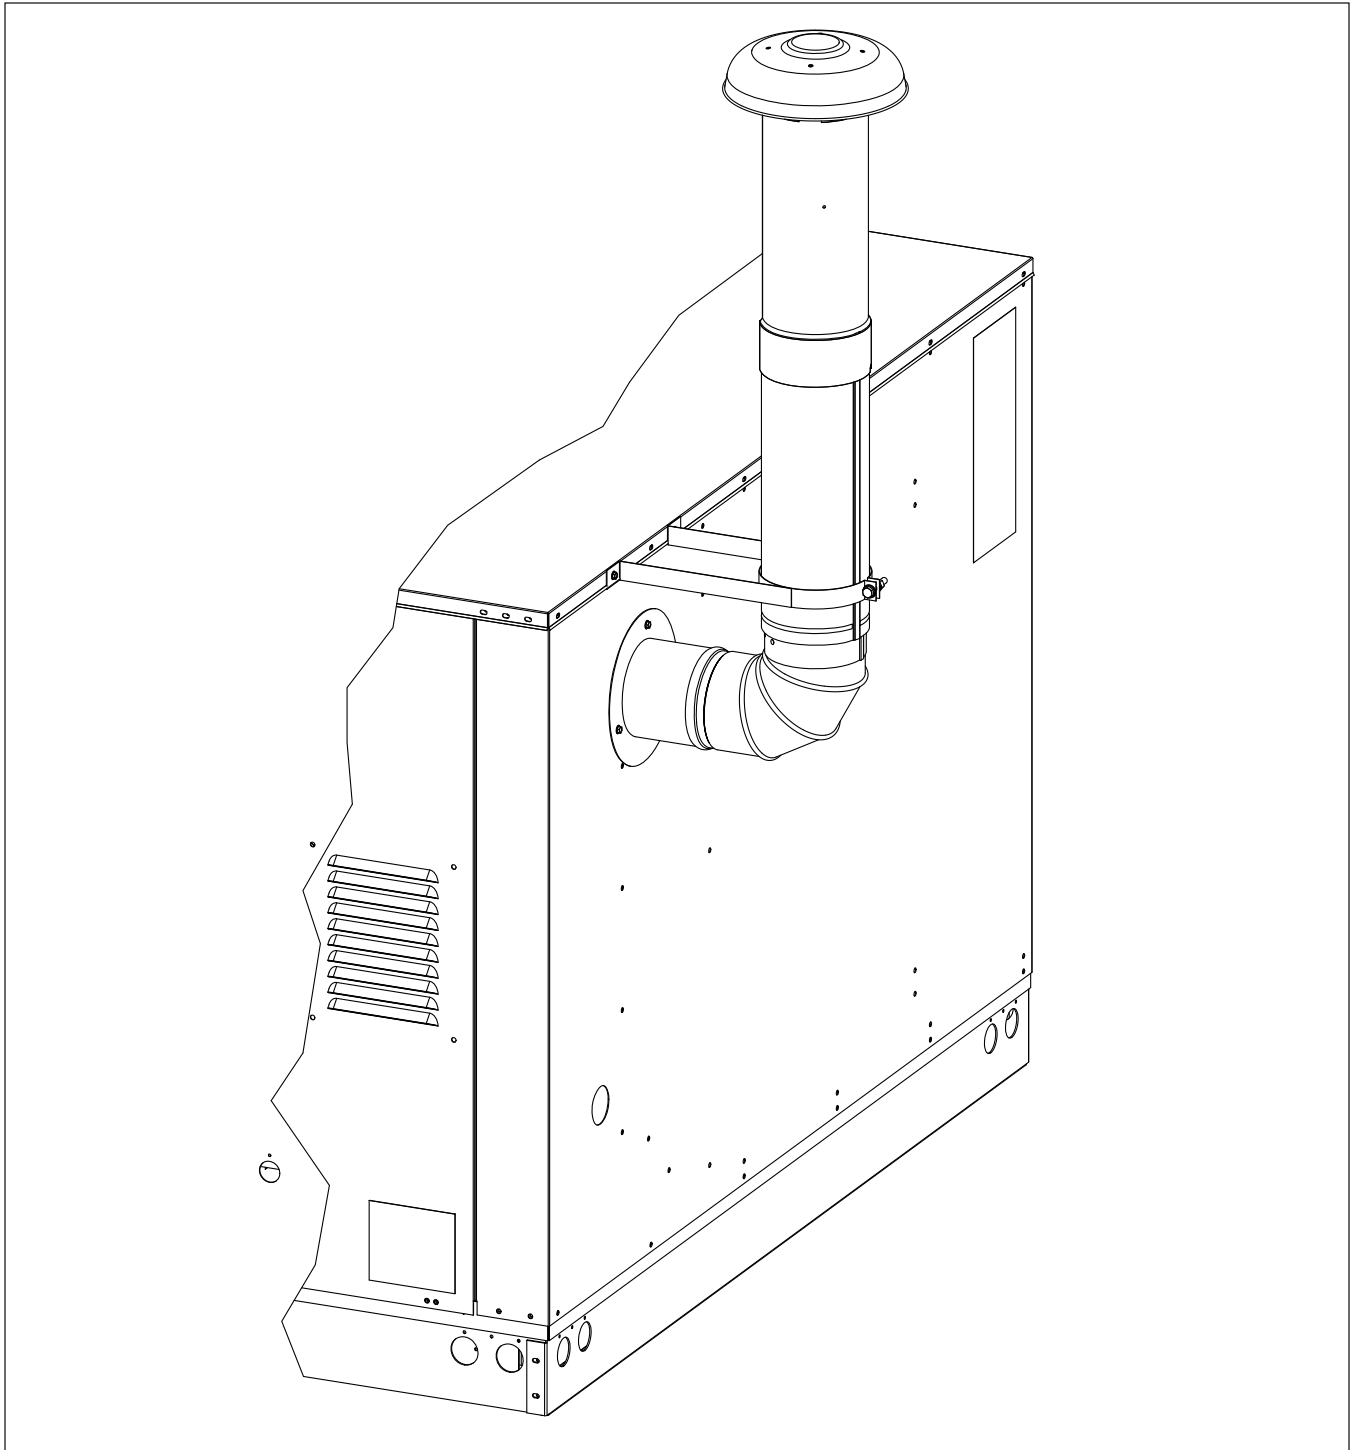

Figure 9. Final Assembly
12. After the installation is complete (See Figure 9), restore electrical power to the unit. Then restore gas supply to the unit.